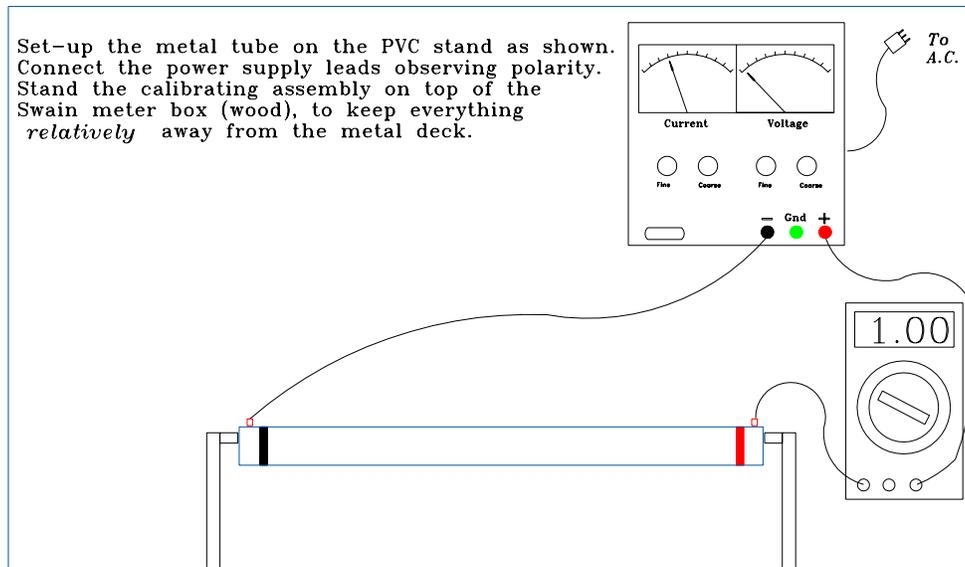

Fig.3
1. Set-up the "Anode stand-off calibration sample", as shown in Fig.3. Insure that all connections to the pipe and power supply are *clean and tight*.